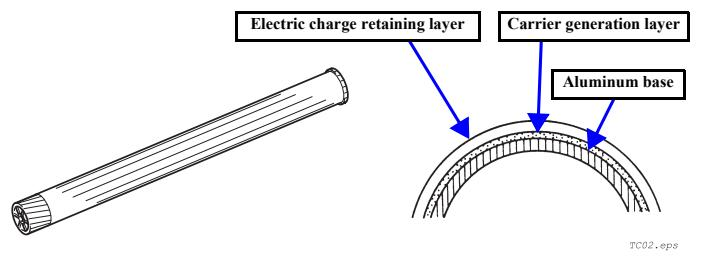

Figure 2-14. OPC Drum
- This photoconductor is of a laminate type consisting of a carrier generation layer and an electric charge retaining layer applied onto an aluminum base (cylinder). (See "Figure 2-14")